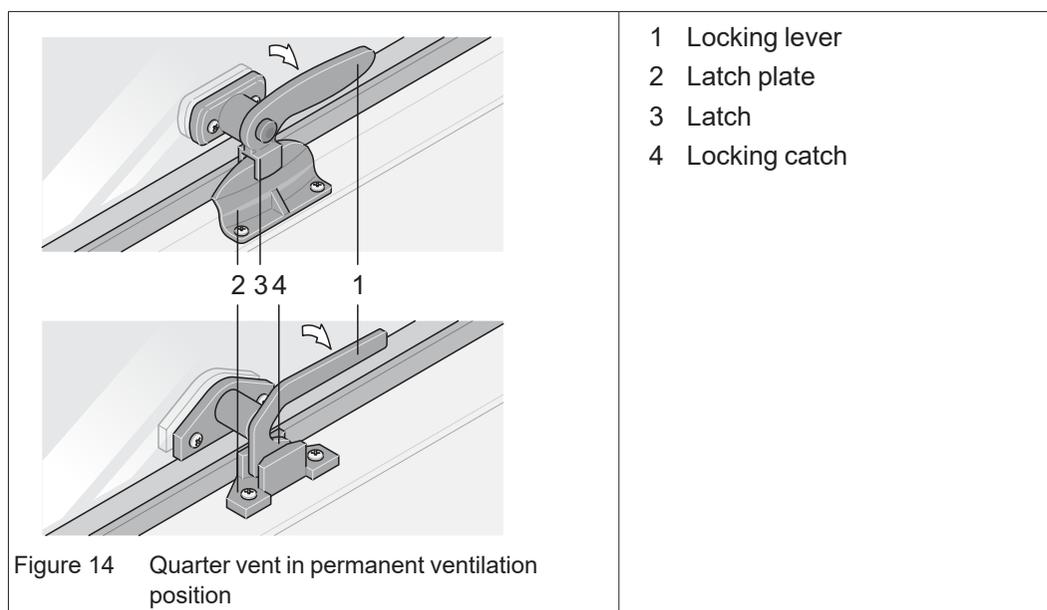

Figure 14 Quarter vent in permanent ventilation position
Locking lever (Figure 14/upper half) **with** push-button locking:
- Put the locking lever (Figure 14/1) into vertical position.
- When closing the locking levers, make sure that the latch (Figure 14/3) engages around the latch plate (Figure 14/2).
Locking lever (Figure 14/lower half) **without** push-button locking:
- When closing the locking levers, make sure that the latch (Figure 14/4) engages inside the latch plate (Figure 14/2).